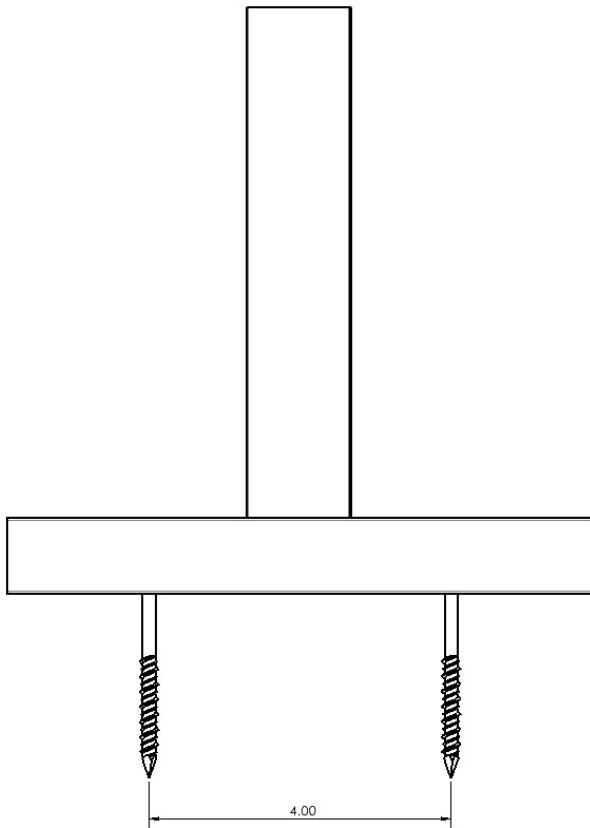

Figure 18
13. For both block frame and nail fin frames, additional anchors are needed at each T-bar location. At each T-bar location, hard block/shim as needed and once level, drill (2)  $\frac{1}{4}$ " diameter holes 2" from each side of the T-bar through the anchor screw grove. Pump a generous amount of Dow 795 sealant, or equivalent, through the anchor holes and install (2) additional  $\frac{1}{4}$ " diameter x 3" anchors. Apply and tool additional sealant over the heads of the anchor screw. (See Figures 18 and 19)